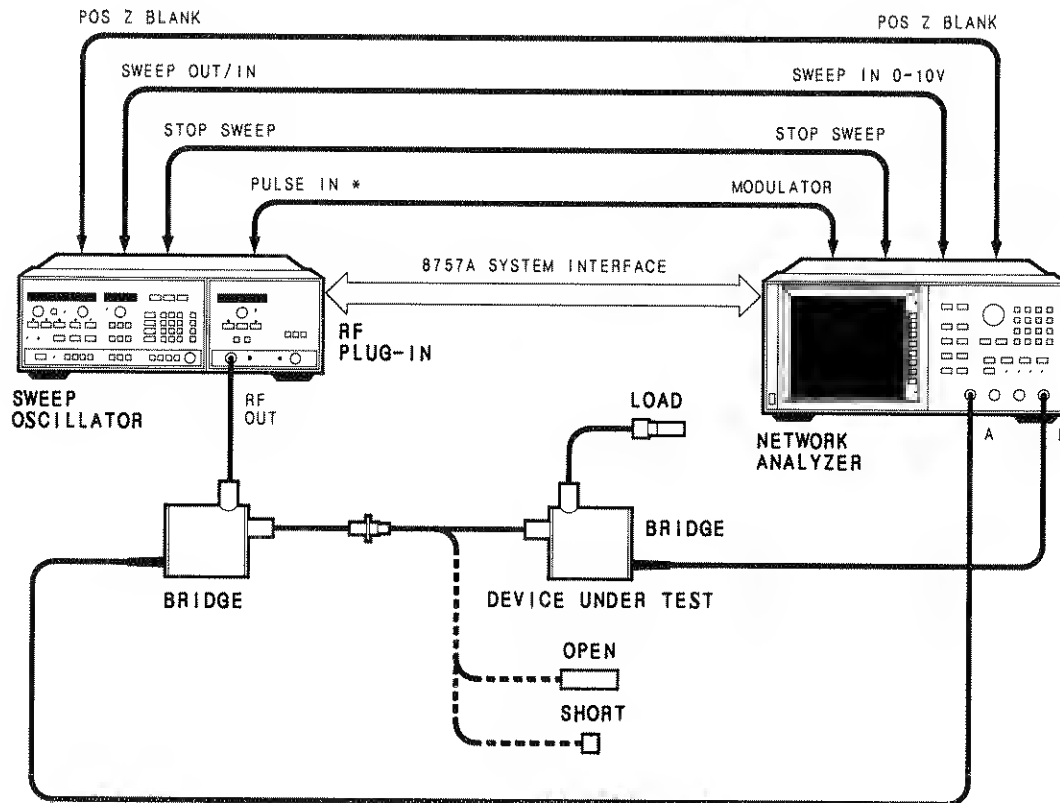

Figure 4-4. Test Port Match Performance Test Setup
Using a typical reflection measurement setup, as shown in Figure 4-4, a second directional bridge is used to measure the TEST PORT of the bridge under test. The bridge under test must be biased by the HP 8757A and its RF IN PORT must be properly terminated.
1. Set up the equipment as shown in Figure 4-4, with the calibrated open connected to the test directional bridge, not the directional bridge under test.